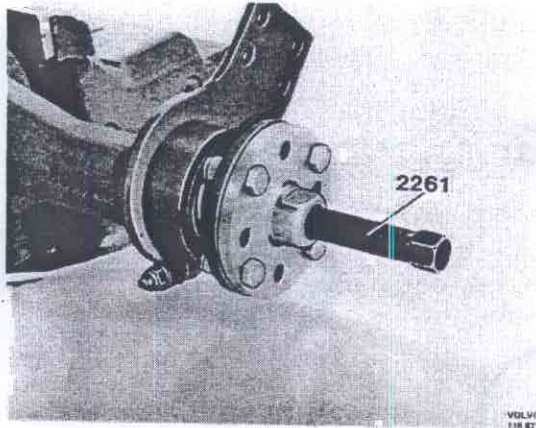

Fig 46-136 Removing the flange
3. Remove the counterhold. Remove the flange with 2261, see Fig. 46-136.